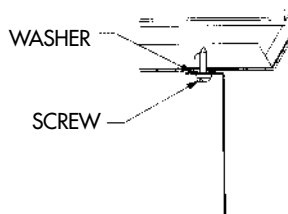

fig. 14
6. Release the side, put your hand on the bottom part and press slightly upwards until it uncouples (Fig. 14).